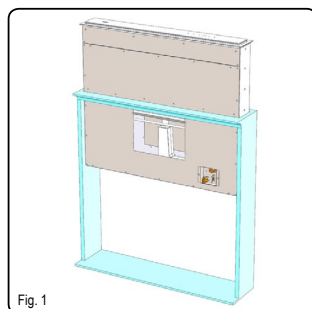

Fig. 1
4. Put the Downdraft in the opening, inserting it from above as shown in (Fig. 1).